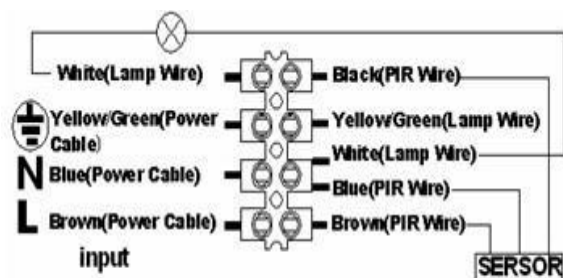

Fig.3
6. Connect the mains wires. (See Fig.3)